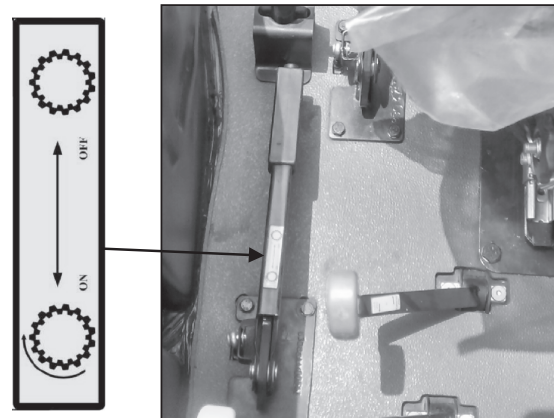

Fig. 4-13
- Live PTO can be disengage by pulling up independent PTO clutch lever (Fig 4-13).